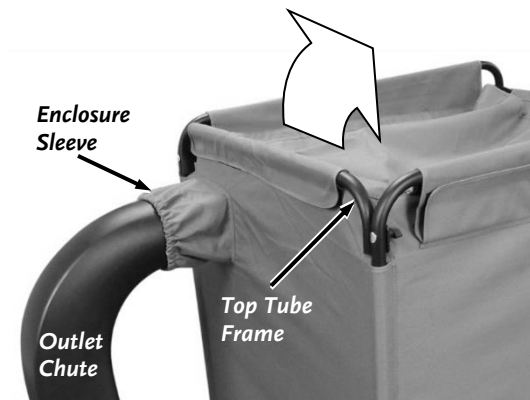

Figure 75
5. Pull the Dump Lever to tip the Collector back (*Figure 74*). Push against the Top Tube Frame to start the tipping (*Figure 75*). Help slide the Enclosure Sleeve off the Outlet Chute if necessary.